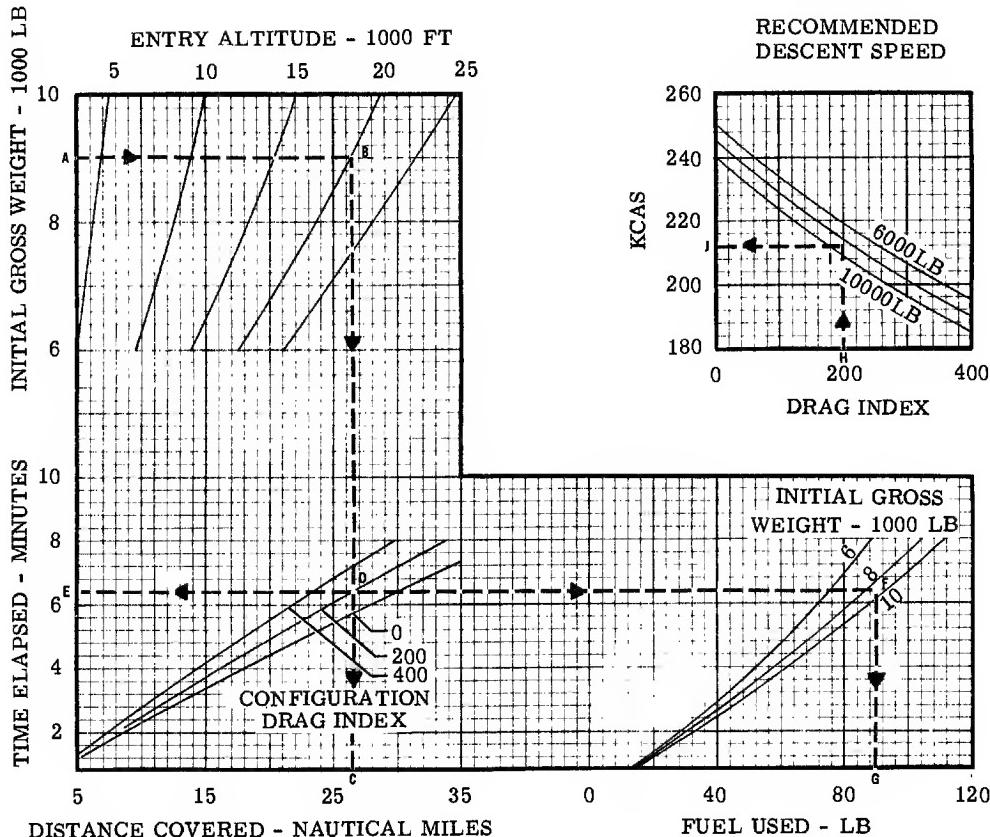

Figure A7-1
Three types of descents are shown in the Descent Charts (figures A7-1, A7-2 and A7-3).
**SOLUTION: (See figure A7-1)**